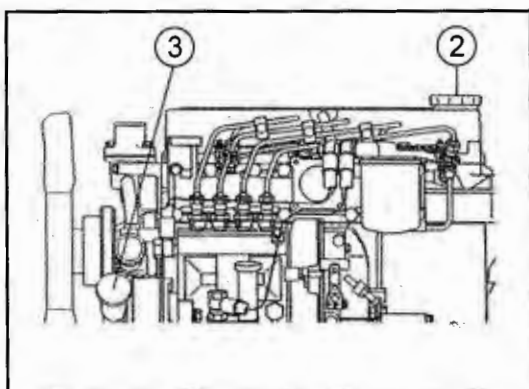

Fig. 34-2 - Oil Fill Points
If necessary, top off with oil through fill points (2) or (3), until the correct level is reached. (See Fig. 34-2).